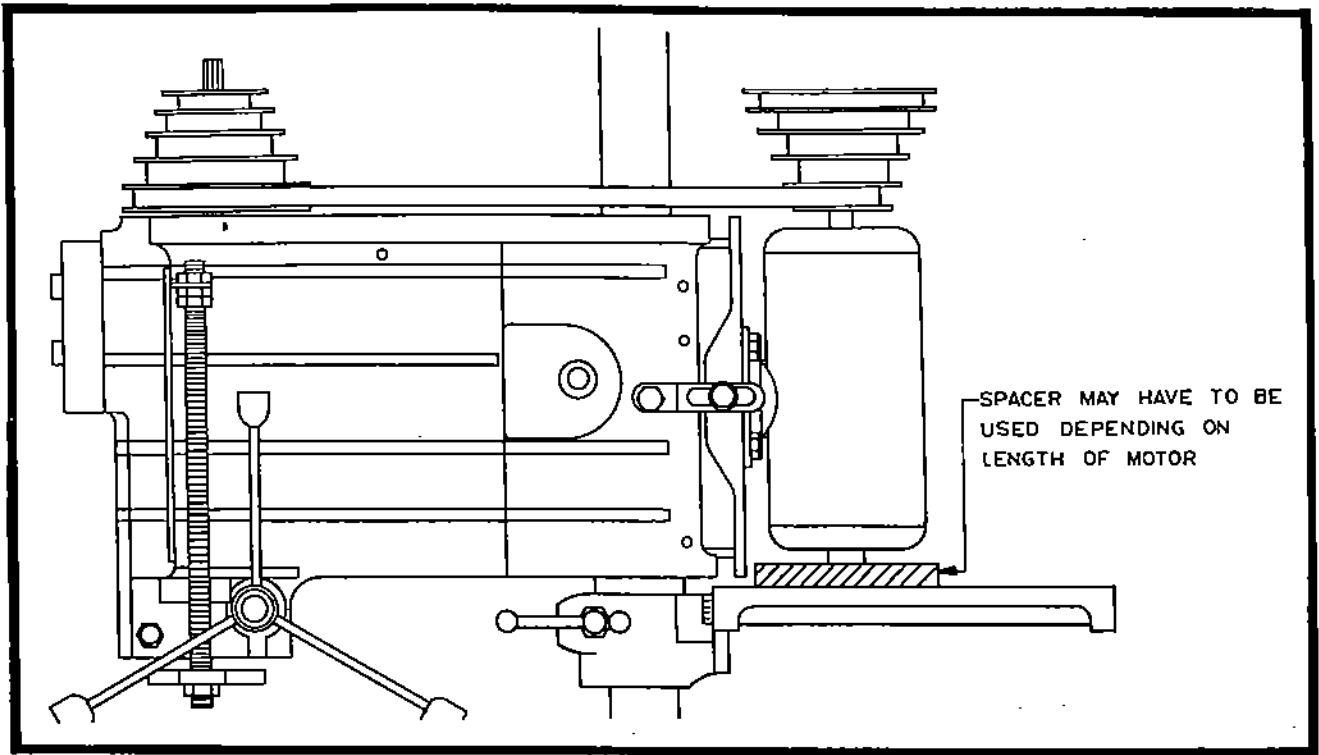

Figure 1
- b. Raise drill press table as shown in Fig. 1. Place motor upright on table and install motor to motor mount, using (4) 5/16" x 5/8" long hex head cap screws. Align motor and spindle pulley and tighten motor pulley setscrews.
- b. Raise drill press table and lock in position (Fig. 1). Place motor on table in upright position and attach motor to motor mount, using (4) 5/16 hex nuts.